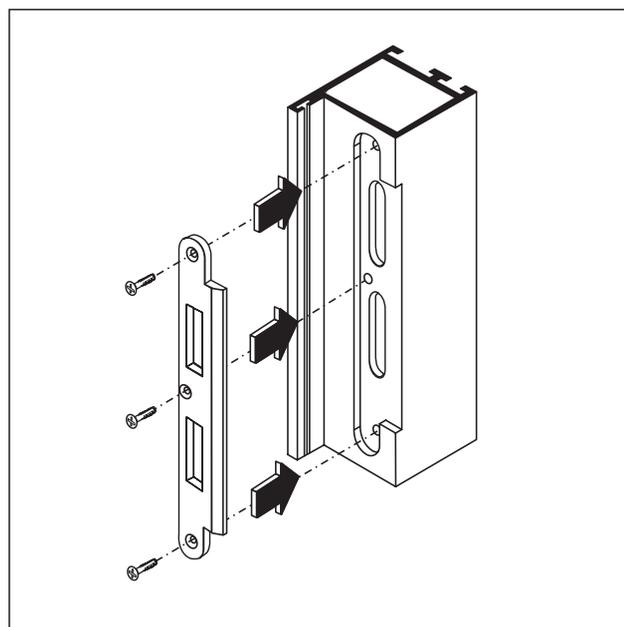

Fig. 20 Mount striking plate
6. Mount the striking plate (Fig. 20).